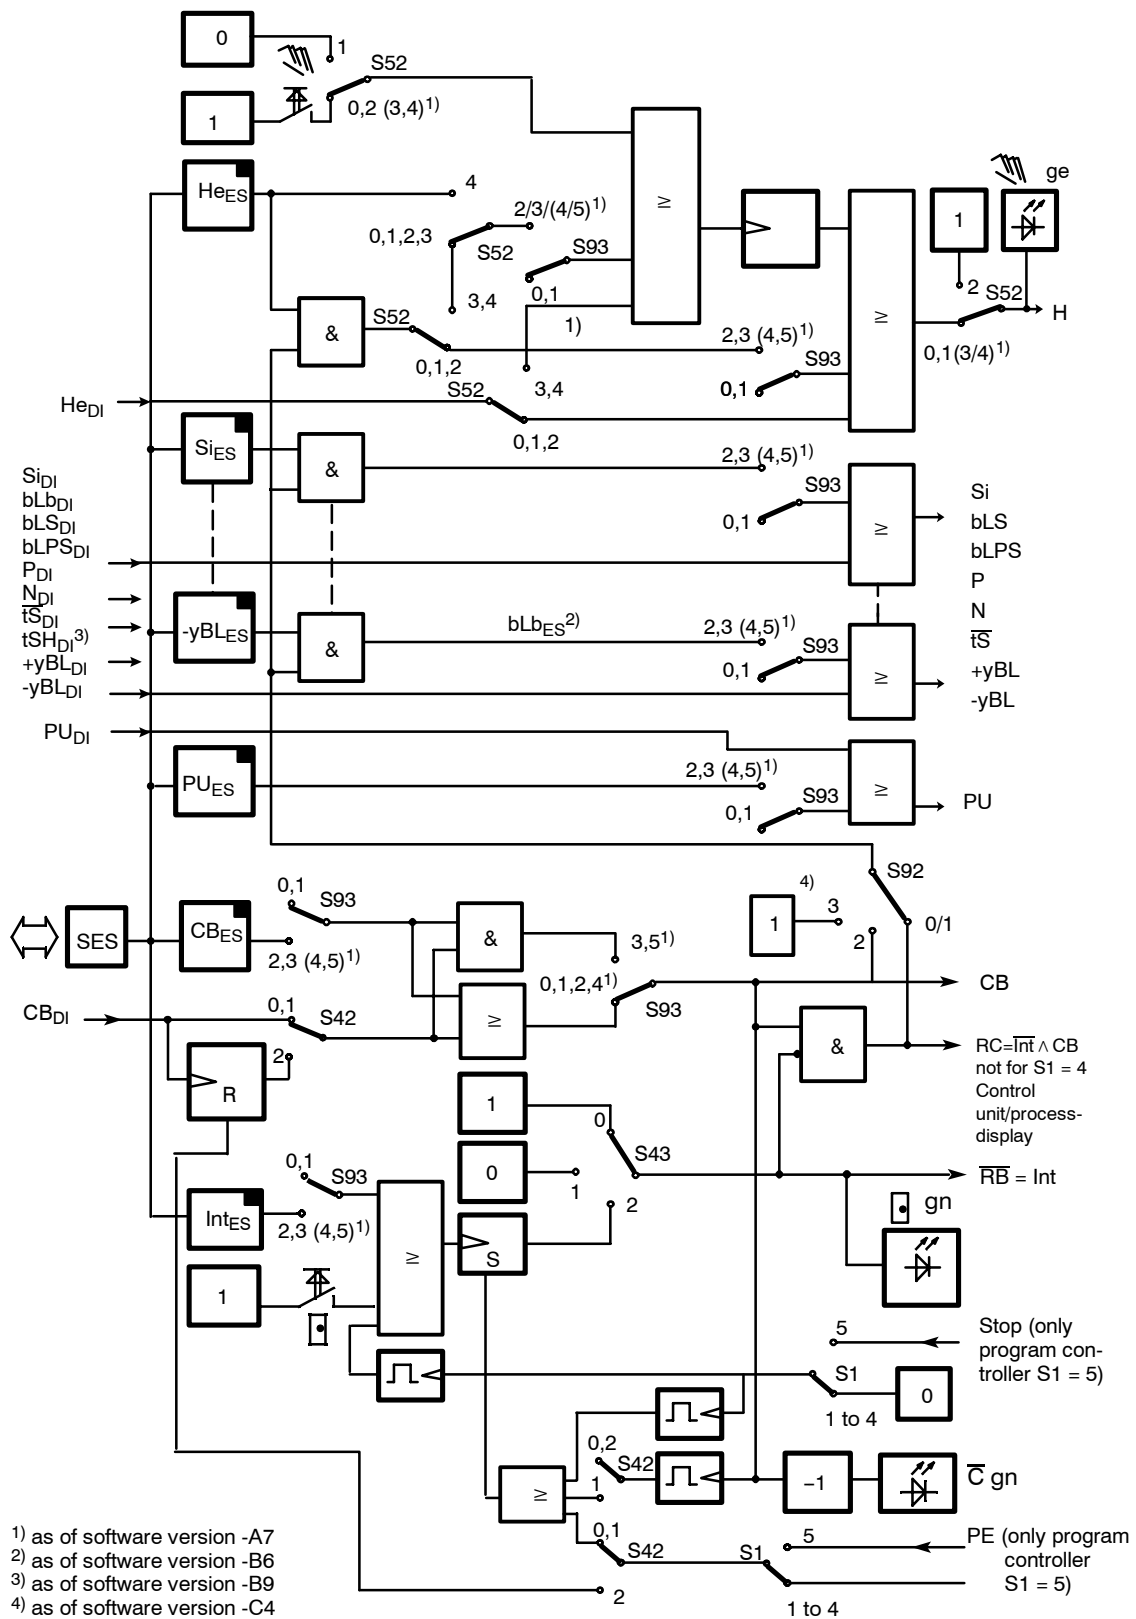

Figure 3-3 Linking the digital inputs DI with the control signals via the SES (S42, S43, S52, S93)
see figure 3-3, page 57
With $S43$ the internal/external key (13) can be deactivated and blocked in the settings internal or external (see figure 3-3, page 57). The factory setting is $S42 = 0$ (only internal).